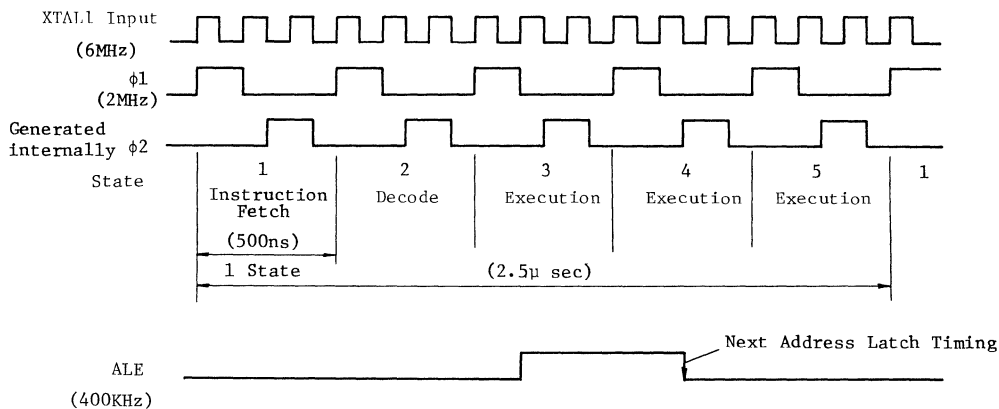

Fig.4 Instruction Cycle Timing
- Fig.4 illustrates its relationship with the clock input to CPU.
- $\phi 2$  clock shown in Fig.4 is derived to outside by ENTO CLK instruction.